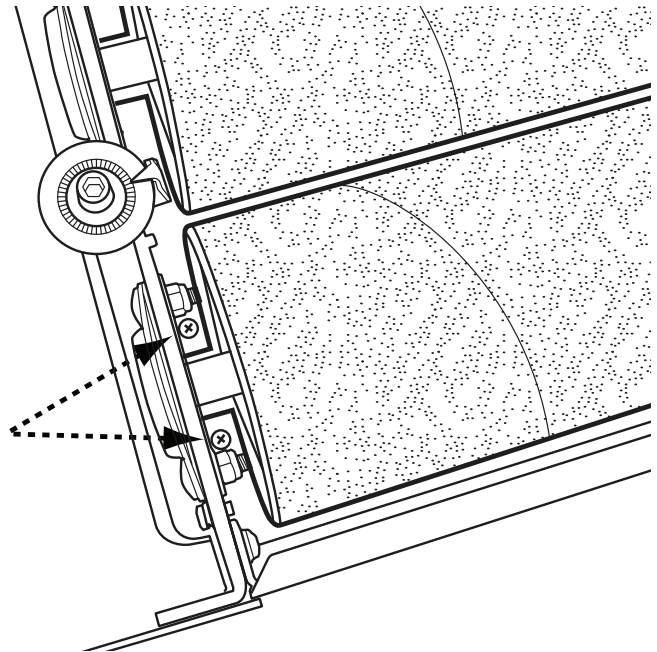

FIG.12
2. Locate the roller pressure adjustment screws as indicated in Fig. 12.